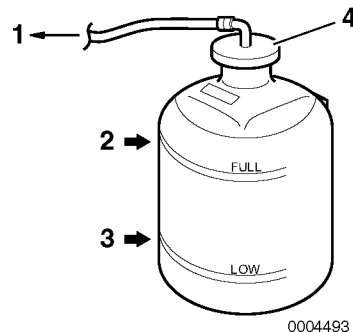

Figure 15
5. Check the coolant level in the reservoir. The level should be at the FULL mark (Figure 15, (2)). Add coolant if necessary.
6. Remove reservoir cap (**Figure 15, (4)**) to add coolant if necessary. Do not add water.
8. Check the rubber hose (**Figure 15, (1)**) connecting the reservoir to coolant tank/heat exchanger. Replace if damaged.